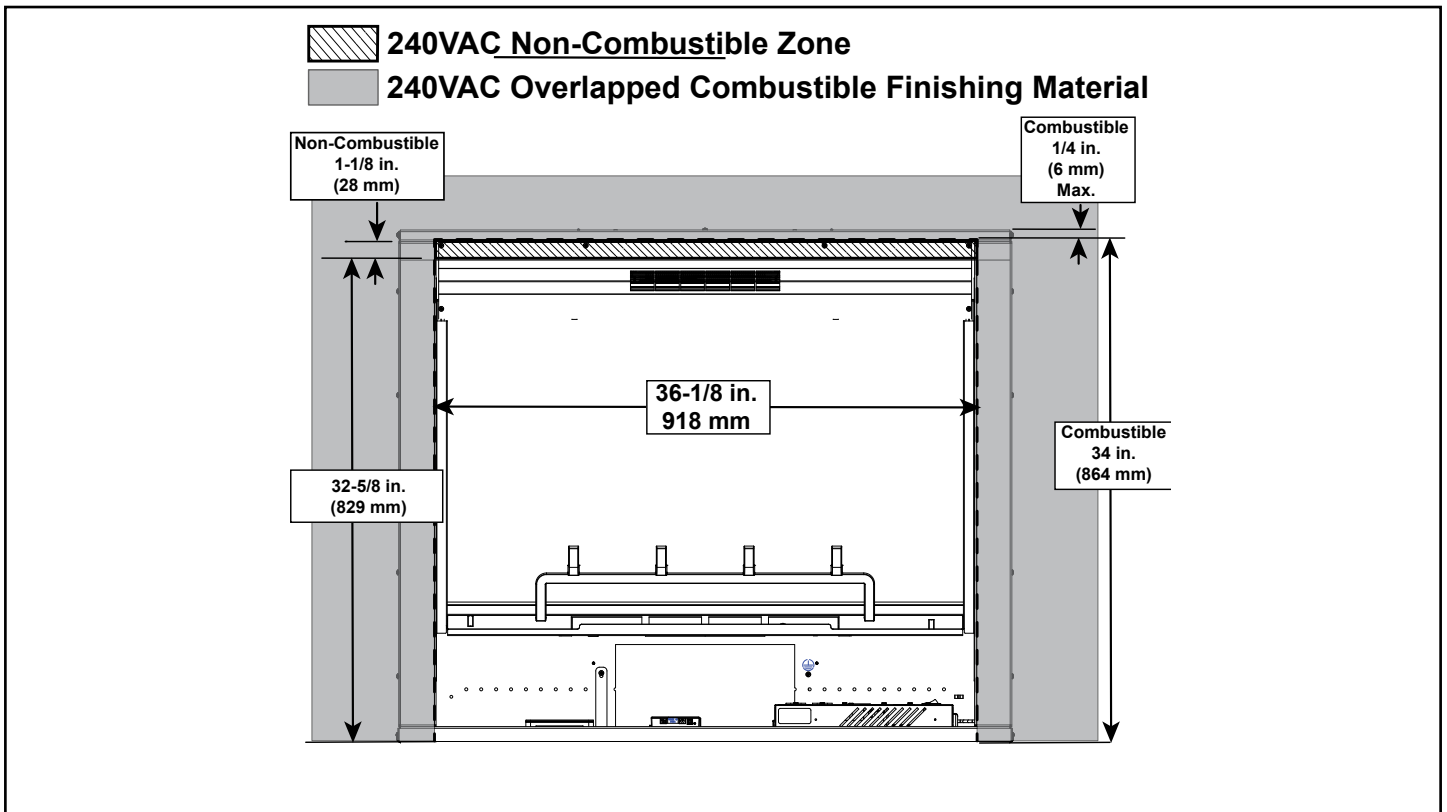

Figure 4.13 240 VAC Overlapped Finishing Clearances
### 2. Locate the (3) Positioning Tabs and bend tabs to an upward orientation. See Figure 4.13.